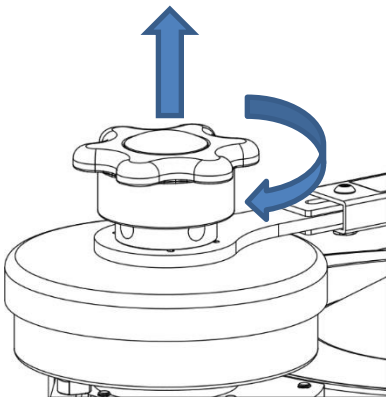

Figure 5
1. Remove load from the line, pull and rotate activation knob until arrow points from “Rescue” to “SRL” mode; the knob has a lock position and will resist slight twisting pressure when properly locked. The yellow label will be visible around the base of the knob. *See figure 5.*
2. Push detent pin and collapse handle to closed position, lift crank grip and rotate flat to the crank handle. *See figure 5.*